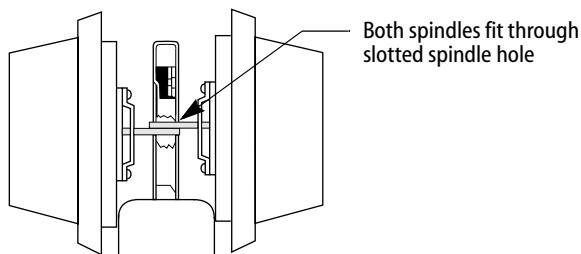

Figure 7 — Side view of double-keyed cylinder deadbolt spindles
- 2 Install each cylinder with its ring and rose as shown in Figure 7.
Note 2: Both spindles must fit through the spindle hole in the deadbolt assembly. See Figure 7.